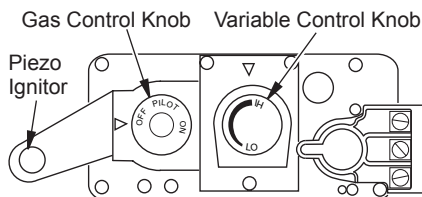

Figure 44 - Control Valve
5. Wait five (5) minutes to clear out any gas. Then smell for gas, including near the floor. If you smell gas, STOP! Follow "B" in the safety information above. If you don't smell gas, go to the next step.
7. Turn gas control knob counterclockwise  to PILOT (see Figure 44).
8. Push in gas control knob all the way and hold. Immediately light pilot by repeatedly pressing piezo spark ignitor until a flame appears. Continue to hold for about one (1) minute after pilot is lit. Release gas control knob and it will pop back. Pilot should remain lit. If it goes out, repeat steps 5 through 8.